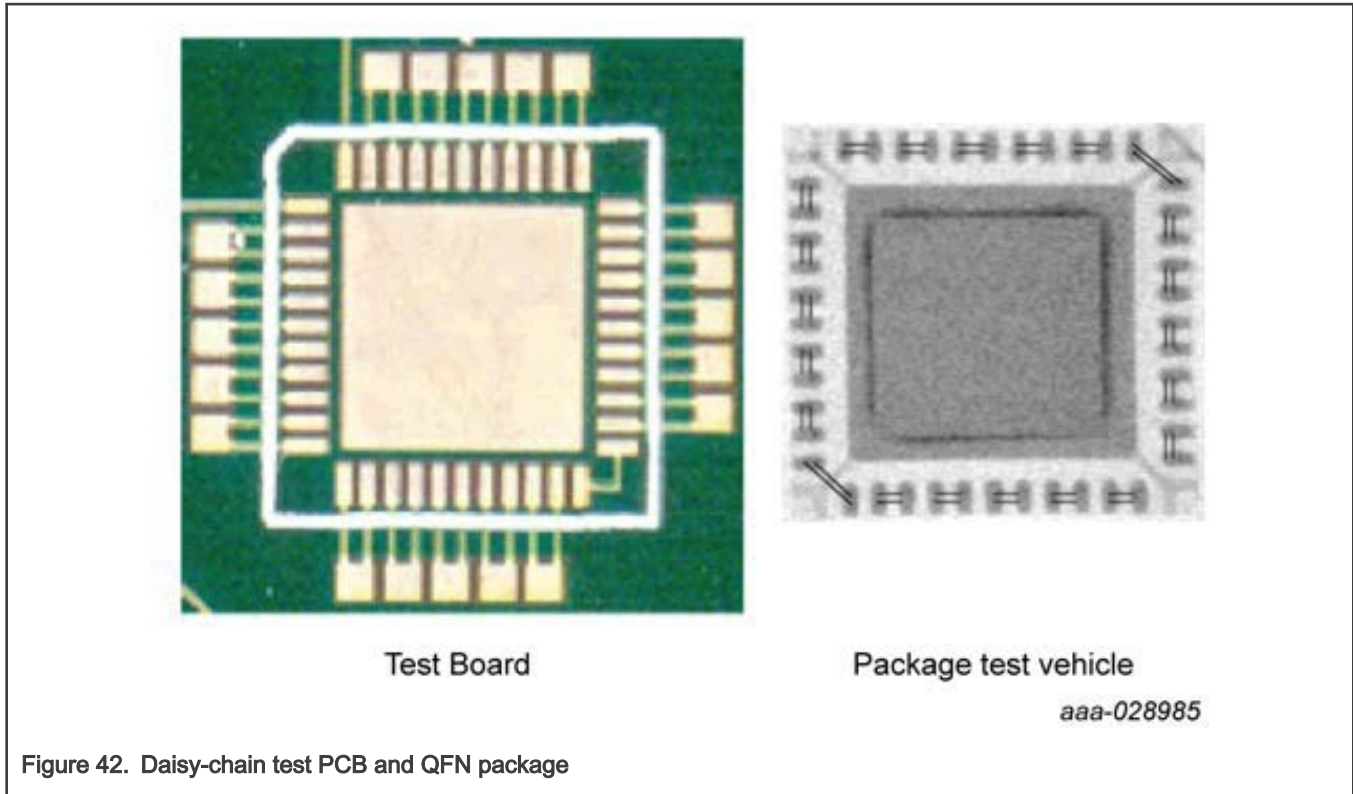

Figure 42. Daisy-chain test PCB and QFN package
- Table 4 shows the NXP standard test set-up for performing board-level solder joint reliability testing. Example of daisy-chain test PCB and QFN package is shown in Figure 42.